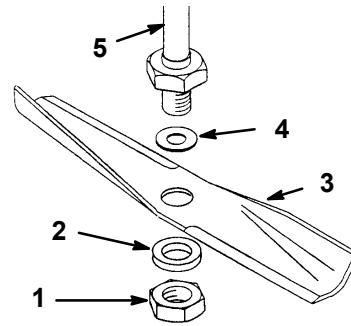

Figure 3
1. Install Recycler® blades from kit. Secure with washer, blade, flat washer, and the blade nut (Fig. 3).
2. Remove Recycler® blades from mower (Fig. 3).
5. Install standard blades, previously removed. Secure with washer, blade, flat washer, and the blade nut (Fig. 3).